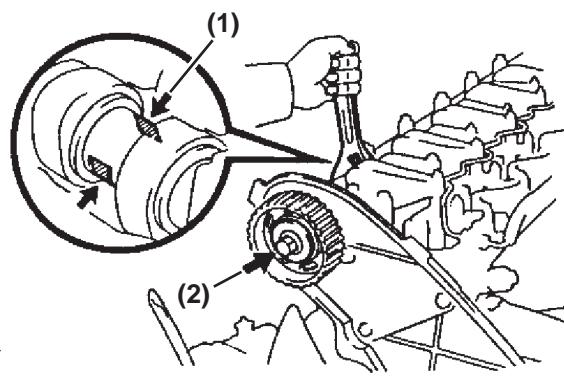

Figure 5-163
- Slowly turn the camshaft timing pulley counter-clockwise to allow a wrench to align with the flats (Figure 5-163, (1)) on the camshaft. Hold the camshaft with a wrench to remove the bolt (Figure 5-163, (2)) and timing pulley.